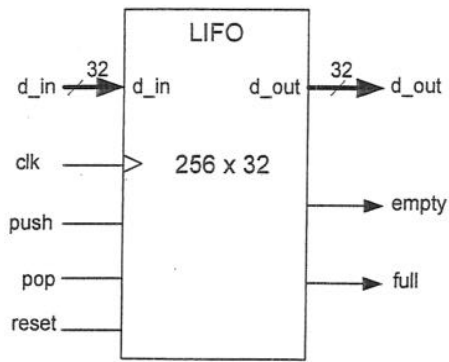

Figure 6.1
6. Figure 6.1 depicts a 256 x 32 bit synchronous stack or last-in-first-out (LIFO) memory module that is implemented using an FPGA. The signal *reset* initializes the LIFO to an empty state. All control, address and data signals change shortly after the rising edge of *clk*.